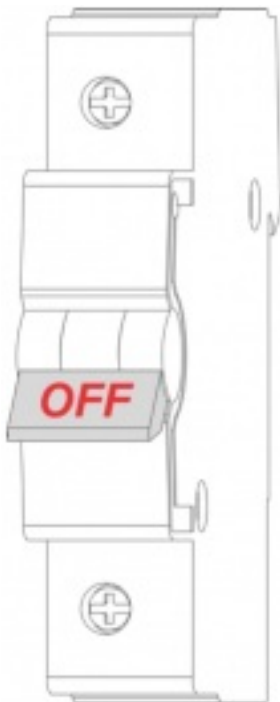

Figure 1:
1. FIRST ENSURE THE POWER IS OFF at the main circuit breaker (**Fig. 1**), and then test the wires with a probe or multimeter to verify.